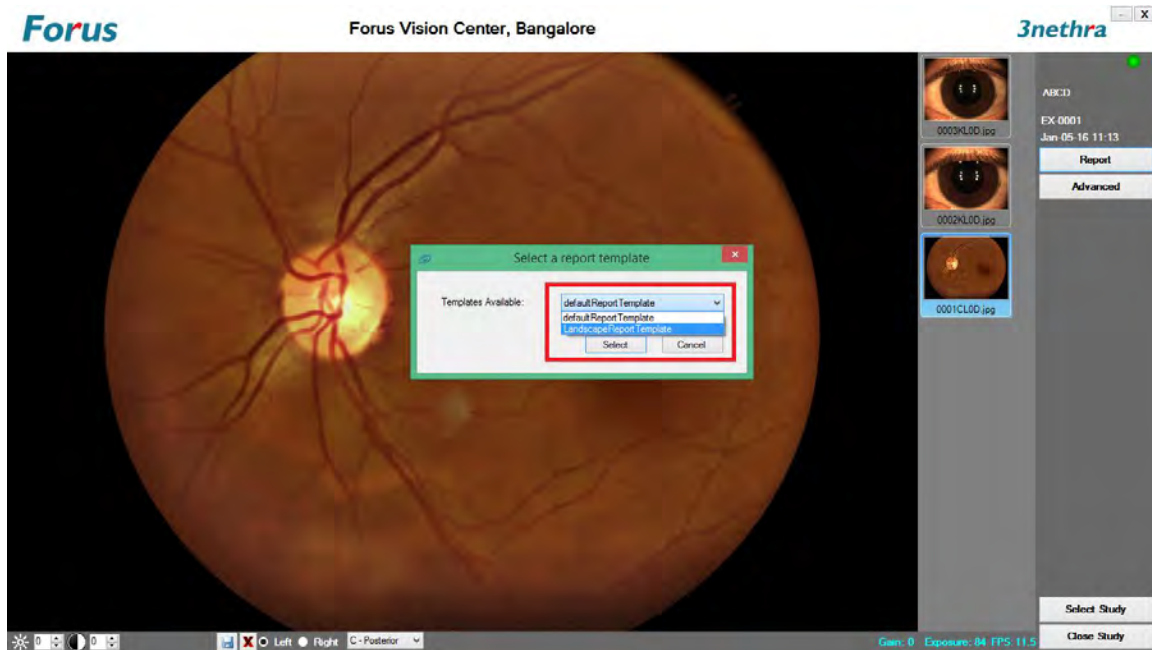
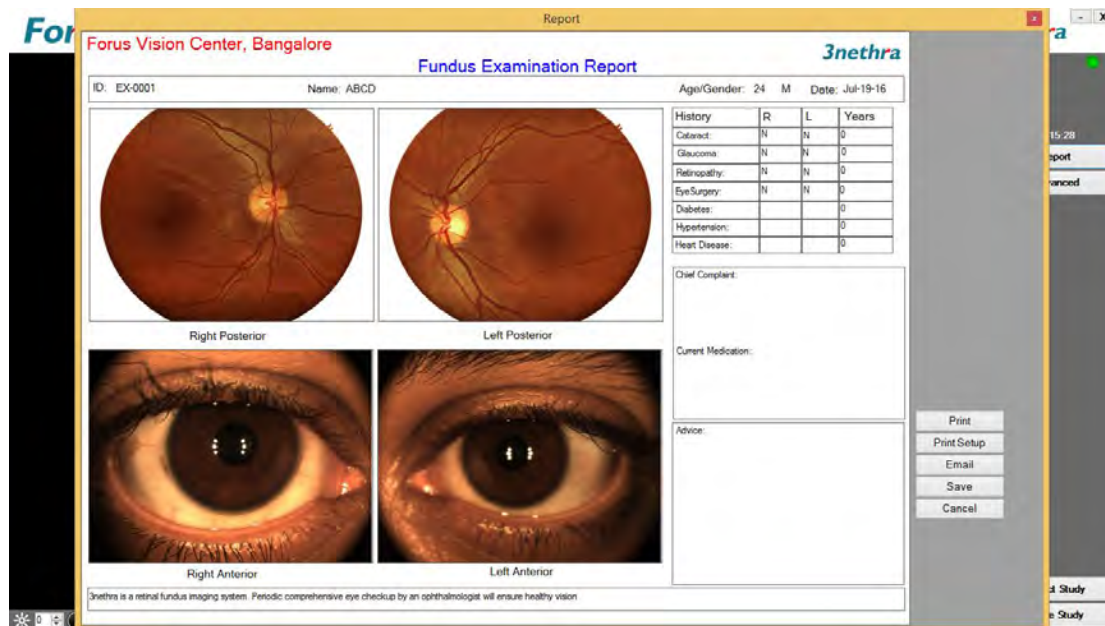

Figure 35: Landscape report template selection
Figure 36: Landscape report template
- b. If you select the Landscape report template from the drop down list as shown in Figure 35 , a dialog opens as in Figure 36.